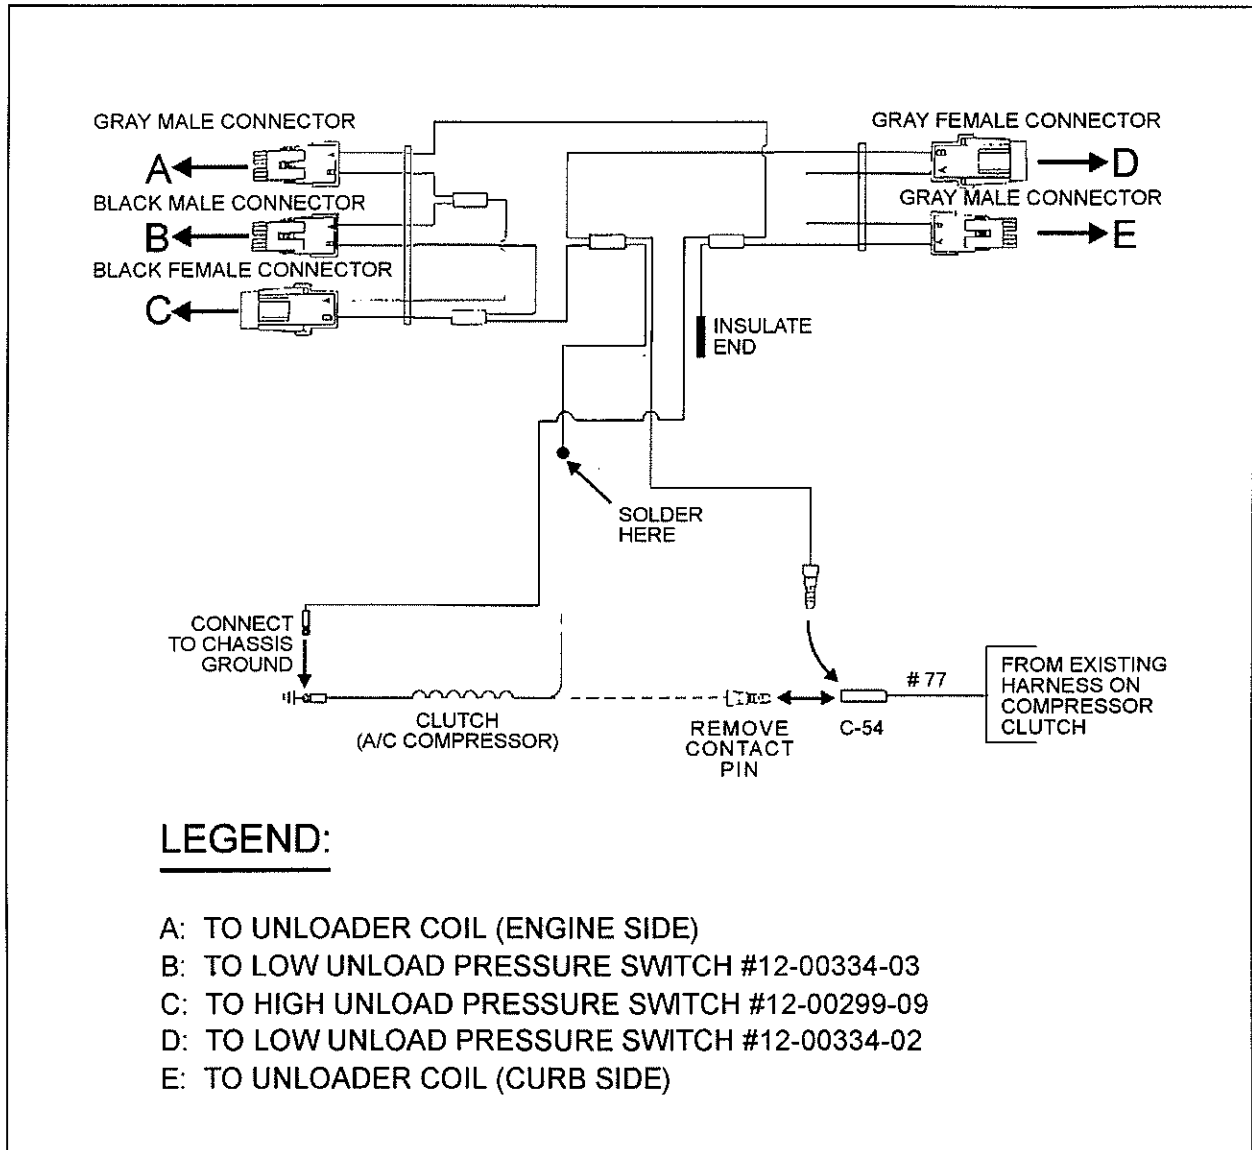

Fig. 4 - Wiring Harness #95-0250 Installation
connected at the previous step (see fig. 4).
15. Connect wiring harness connectors to pressure switches as shown in wiring diagram of figure 4.